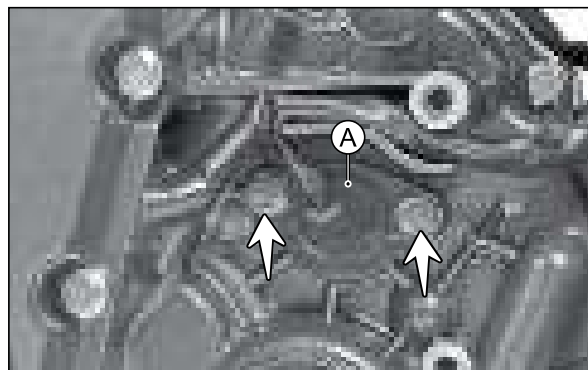

Fig. 3.111
- Remove the hexagonal flange bolt (M6x16 - 2 Nos.) and take out the switch gear position (A). (Fig. 3.111)